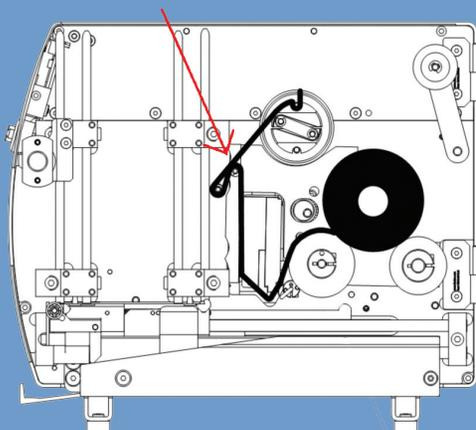

Figure 4: Push up to lift the print-head
2. The print head moves up and down approximately 10 mm. If the print-head is not in the up position move it up by lifting on the white roller. See figure 4 below.